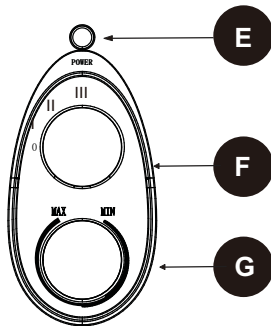

Figure 1
3. Main Control Knob (Figure 1): Use this knob to set the heat setting: